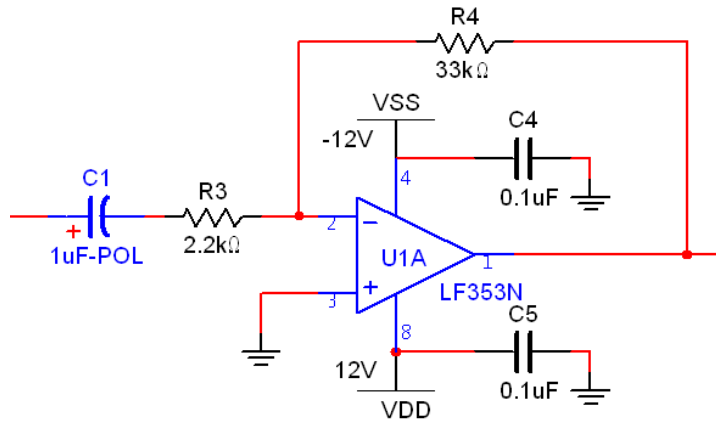

Figure 1-5 – Microphone gain stage
- Add the components for the first stage of amplification as in Figure 1-5. Note we are AC-coupling the microphone to the amplifier, and this sets a low-frequency cutoff (pre-lab calculation). Leave out C2 for now (the capacitor in the feedback path). We will talk about this later. You should have built the following circuit, minus the microphone cartridge: